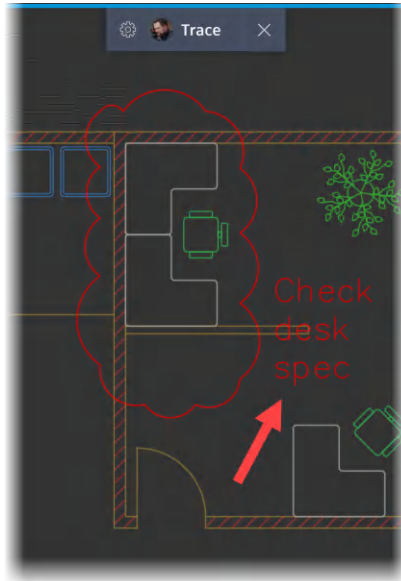

Figure 16.19: The MText placed in the trace in the DWG file
11. Click on the blue checkmark to confirm the text settings. The editor will close, and the text will be placed in the trace, as shown in *Figure 16.19*.